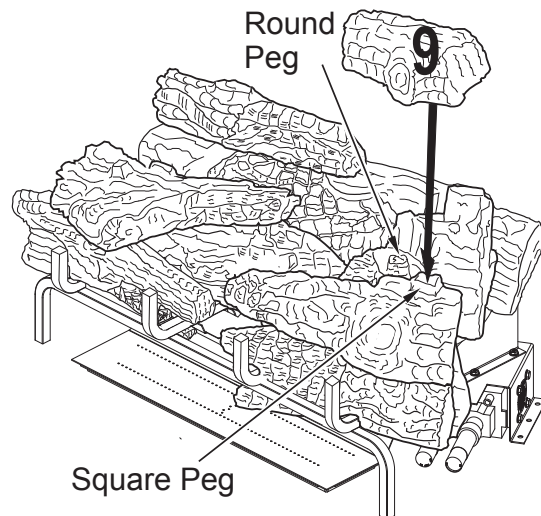

Figure 30 - Installing Log #9
9. Place the top right log (#9) on top of the right rear chunk log (#7) and front right mid log (#8) as shown in **Figure 30**. Match the round peg on the top of the right rear chunk log (#7) with the round hole on the bottom of the top right log (#9) and square peg on the top of the front right mid log (#8) with the square hole on the bottom of the top right log (#9).